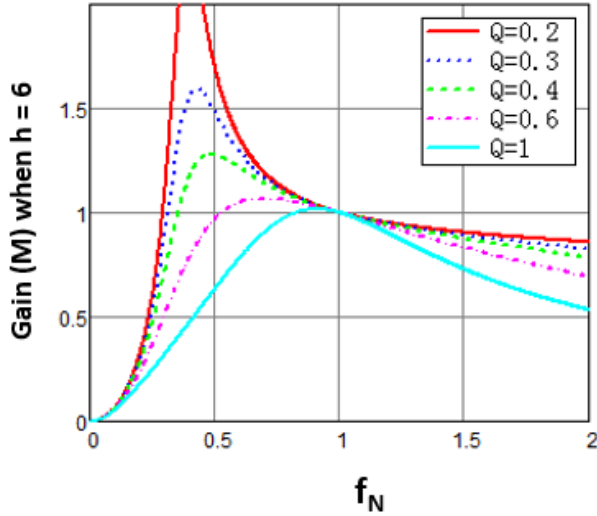
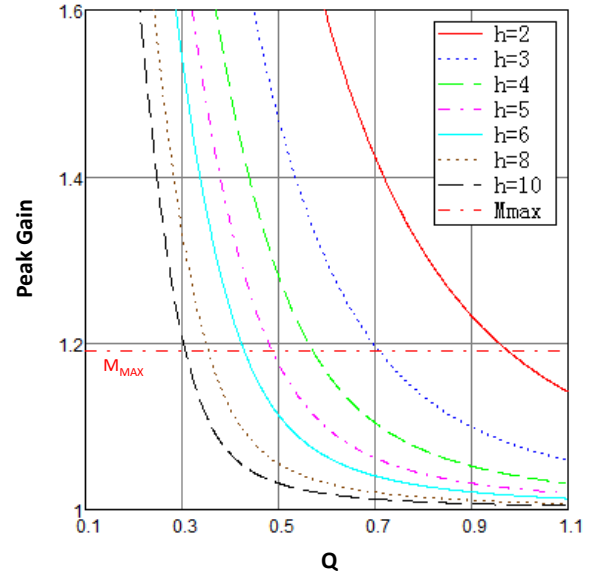

Figure 22: Gain Curve vs. h and Q
Figure 23: Peak Gain vs. h and Q
A benefit of LLC-SRC is that it can achieve ZVS not only when $f_{SW} \geq f_R$, but also when $f_M < f_{SW} < f_R$. Figure 22 shows a gain curve with different h and Q combinations. The voltage gain is always 1 when $f_N = 1$. This means that the switching frequency is equal to the series resonant frequency, calculated with Equation (29):
Each gain curve has a peak gain (see Figure 22). Figure 23 illustrates the peak gain with different h and Q combinations. Depending on the required maximum peak, select the optimal h and Q combination. Note that a higher h provides a higher magnetizing inductance (L_M), which results in higher efficiency.